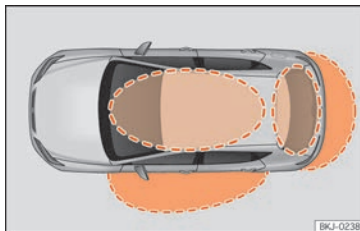
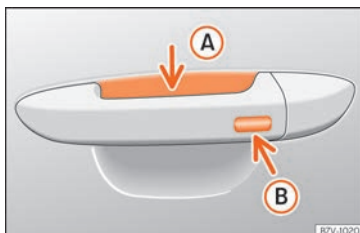

Fig. 83 Keyless Access: proximity zones.
Fig. 84 Door handle: sensor surfaces
»» **Fig. 84**
Keyless Access is a key-free locking and ignition system to unlock and lock the vehicle without actively using its key. To do this, all that is required is to have a valid vehicle key in the detection area where you are attempting to access the vehicle »» Fig. 83 and to touch one of the sensor surfaces on the door handles »» Fig. 84 »» ❶.
If a valid key is in the proximity of the car »» Fig. 83, the Keyless Access locking and starting system gives the key entry as soon as
- Grip the driver door handle. When you do this, you touch the sensor surface »» Fig. 84 ❶ (arrow) of the handle and the vehicle unlocks.
- Touch (*once*) the locking sensor surface »» Fig. 84 ❷ (arrow) on the driver's door handle. The door that is used must be closed.
- Touch (*once*) the sensor surface »» Fig. 84 ❷ (arrow) on the driver's door handle. The vehicle locks with the "Safe" security system »» page 102. The door that is used must be closed.
- Touch (twice) the sensor surface »» Fig. 84 (B) (arrow) of the driver door handle to lock the vehicle without activating the “Safe” security system »» page 102.
When the vehicle is locked, the rear lid automatically unlocks on opening if there is a valid vehicle key in the proximity »» Fig. 83.
- Push the central locking button  on the remote control and touch the locking sensor surface of the driver door handle »» Fig. 84 (B) (arrow) within the following 5 seconds. Do not grasp the door handle; otherwise the vehicle will not unlock. Deactivation is also possible if the vehicle is locked through the driver's door lock.
To close all the electric windows using the **comfort function**, keep a finger on the locking sensor surface »» Fig. 84 (B) (arrow) of the door handle for a few seconds until the windows have closed.
The sensor surfaces on the door handles could engage if hit with a water jet or high pressure steam if there is a valid vehicle key in the proximity. If at least one of the electric windows is open and the sensor surface »» Fig. 84 (B) (arrow) on one of the handles is activated continuously, all windows will close.